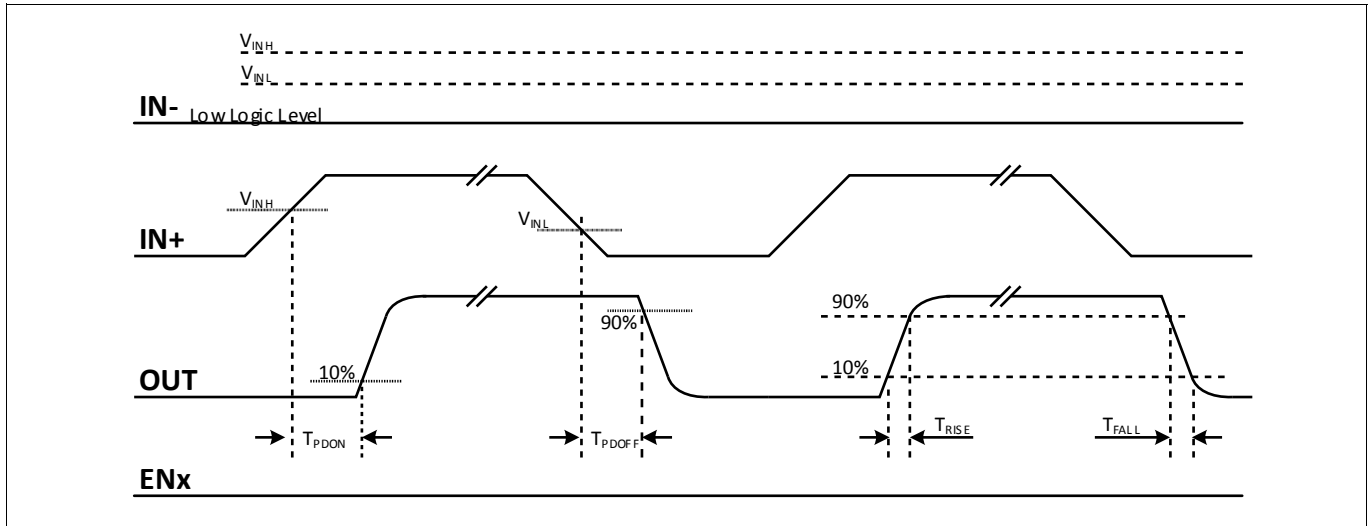
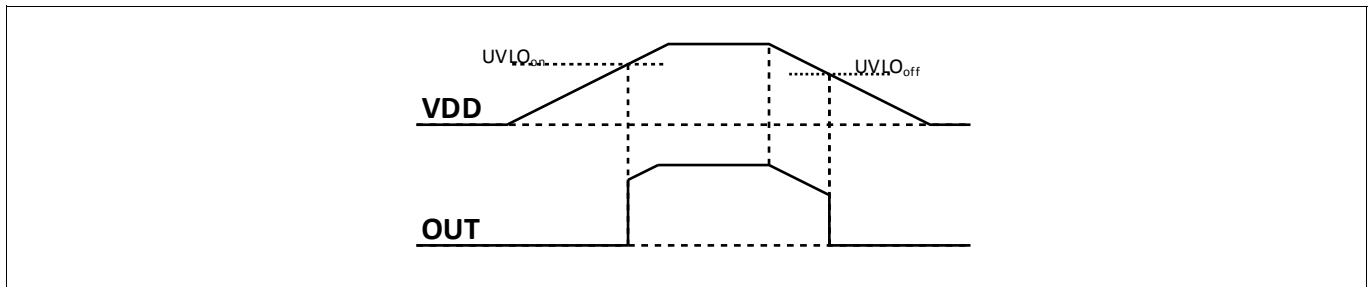

Figure 7 Propagation Delay, Rise and Fall Time, Non-inverted
Figure 8 UVLO Behaviour, Input INx Drives OUT Normally High.
**Table 13 Dynamic Characteristics (see Figure 7, Figure 8, Figure 9)**
Figure 7 shows the definition of rise, fall and delay times for the inputs. This is also valid for the inverted control.
Figure 8 illustrates the undervoltage lockout function.